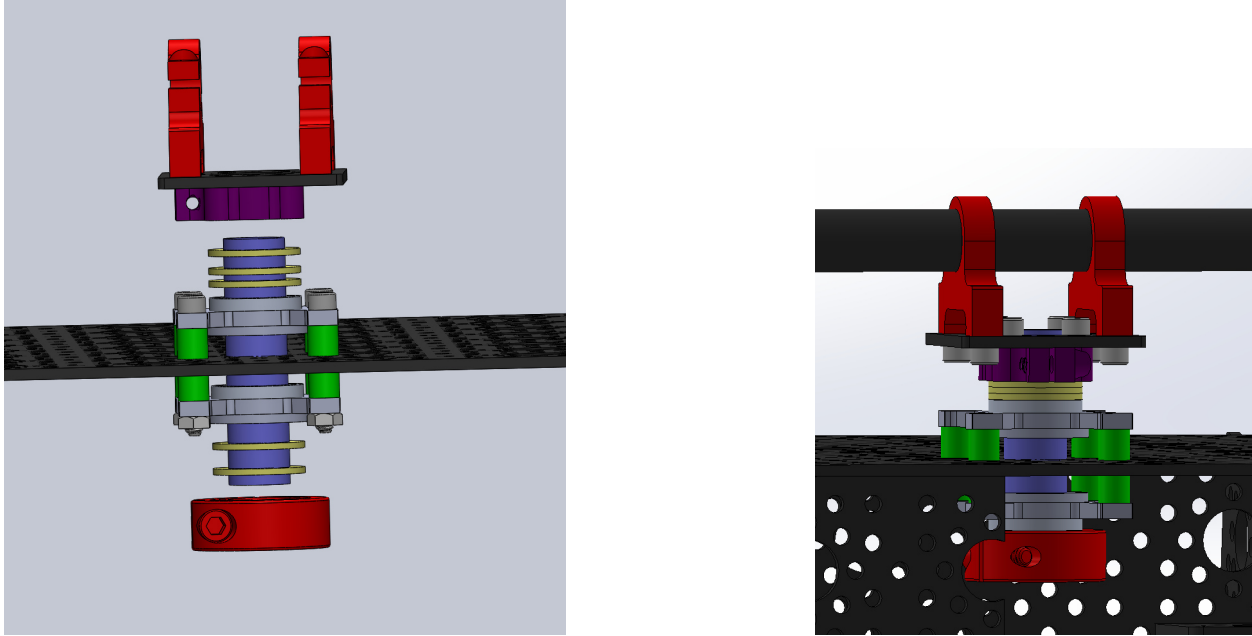

Figure 8: Inserting differential pivot joint
1. **Mounting the differential pivot center:** Mount a collar clamp **S22** onto the end of the 2" Aluminum Rod **S19** as well as two of the 0.5" Nylon washers **W3** as shown in Figure 8. Then, insert this rod into the pillow bearing blocks from the inside of the body assembly. Add three more nylon washers on the outside / top and then attach the clamping assembly on the middle of the differential pivot (see Figure 8).